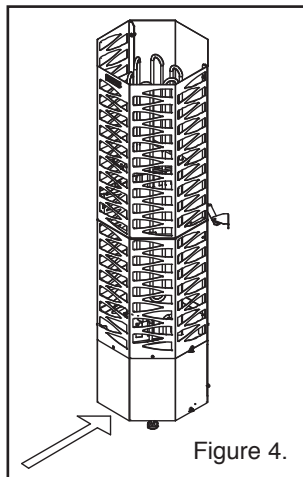

Figure 4.
- The heater's control switch is located in the front at the lower part of the heater (see Fig. 4).